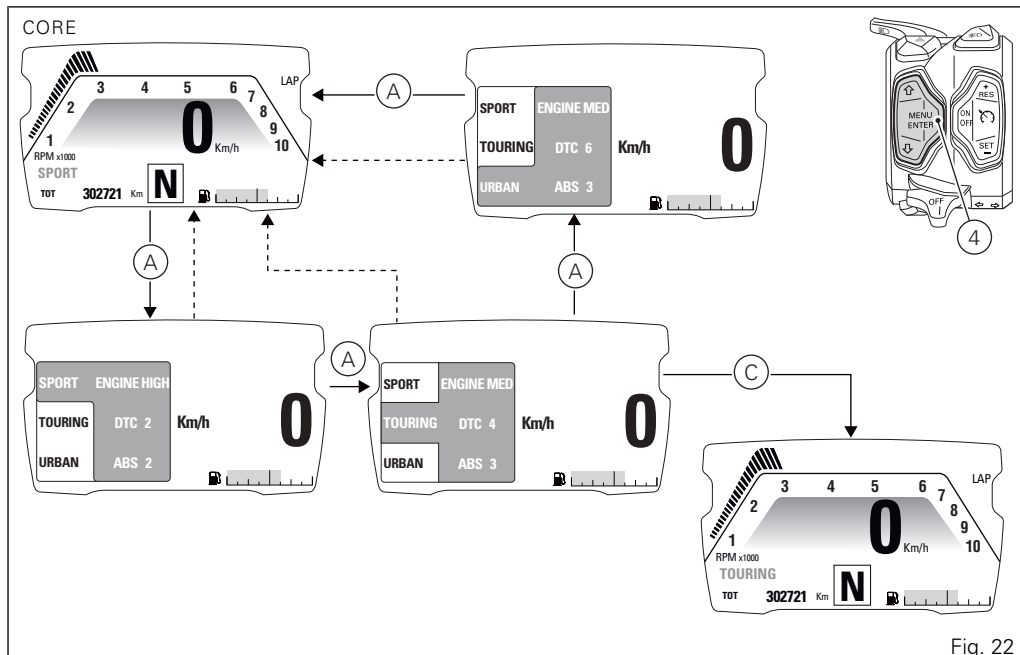

Fig. 22
Any time CONFIRM MENU button (4) is pressed, the selected riding mode is highlighted together with the associated parameters (A, Fig. 22).
Once the desired riding mode (A, Fig. 22) is highlighted, confirm the selection by holding down the CONFIRM MENU button (4) for 2 seconds: the new riding mode selection is stored and the standard screen (C, Fig. 22) is displayed for the selected riding mode.